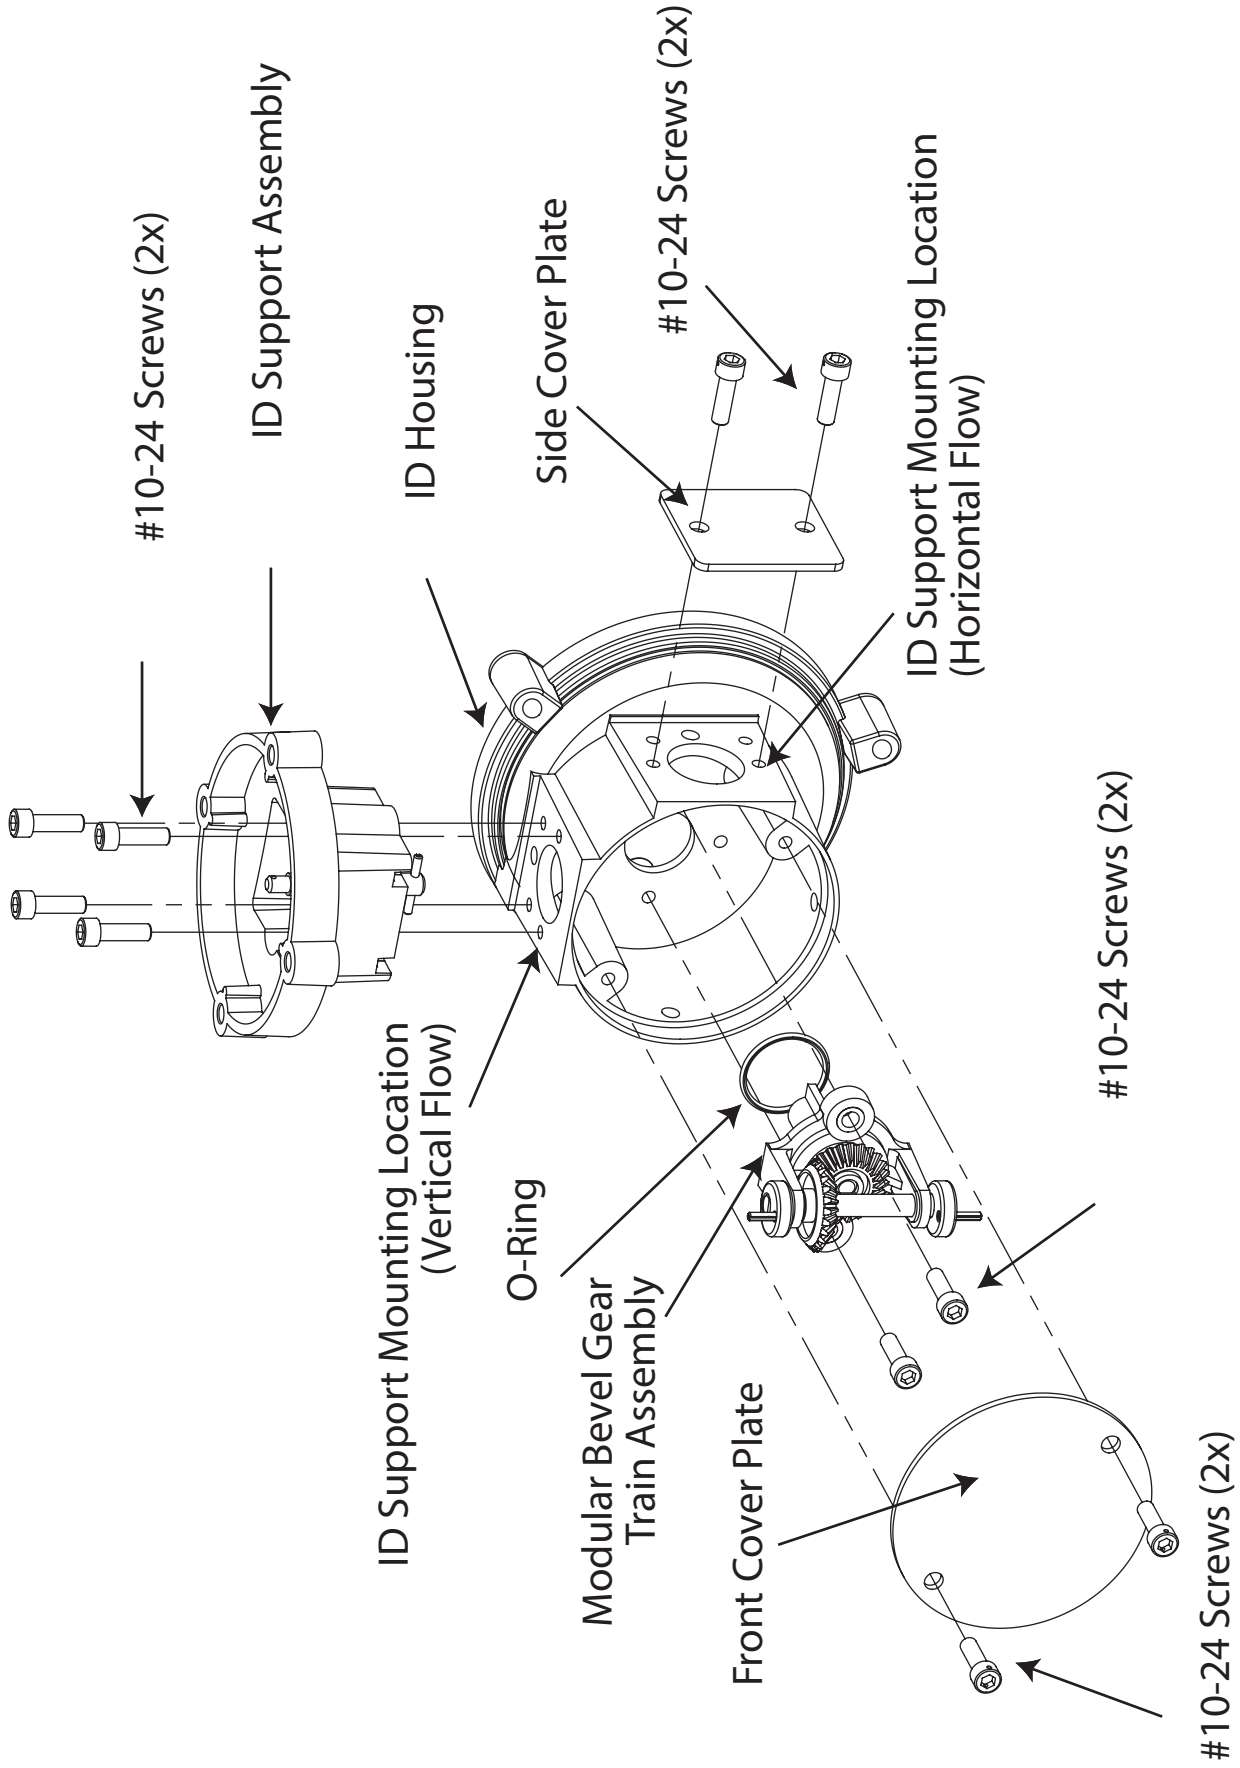

Figure 19 - Exploded View of Instrument Drive (ID) Assembly
The following procedures are required to change the position of the instrument drive assembly and drive dog rotation direction. Refer to Figures 19, 20 and 21 for component locations.
1. Using a 5/32” Allen wrench, remove the two #10-24 screws that hold the Front Cover Plate onto the ID housing. Remove the cover plate. Refer to Figure 19 for component identification.